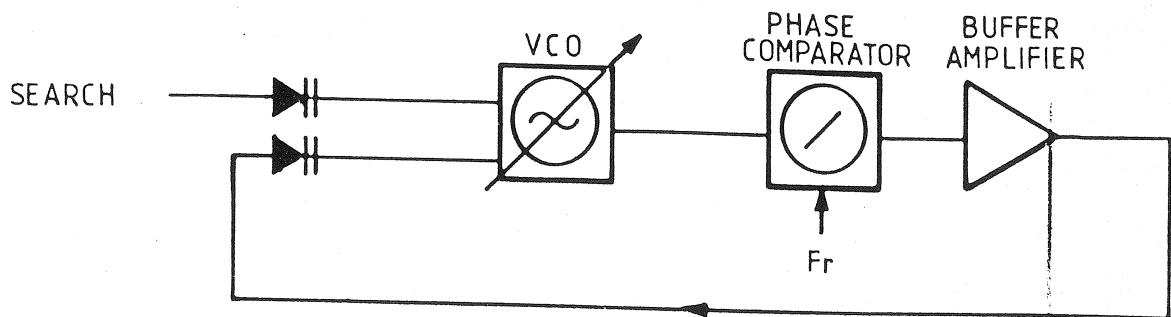

Fig. 3A.1
- 3 The principle of the phase locked loop is shown in Figure 3A.1.